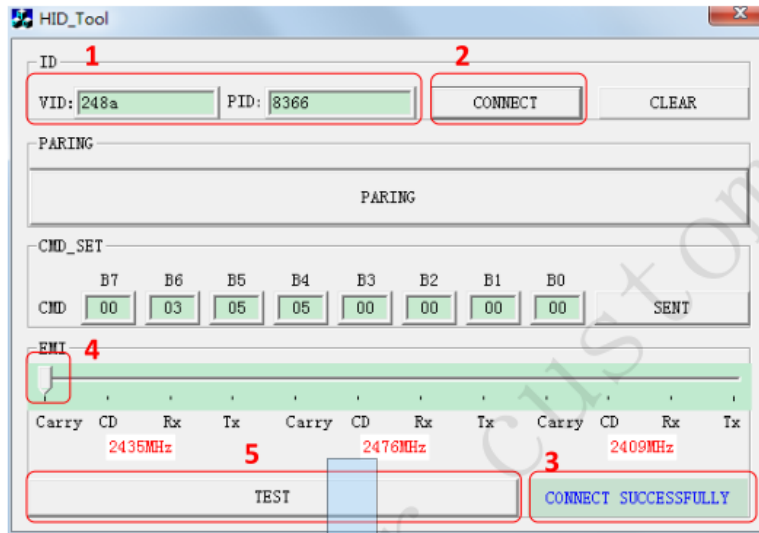
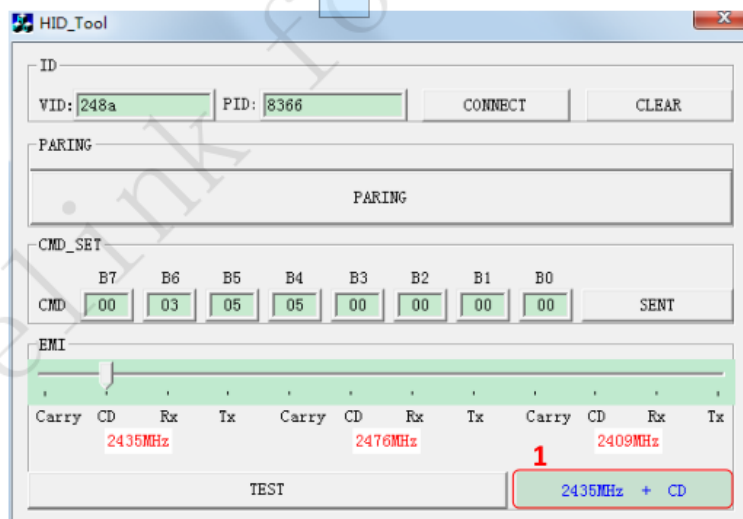

图 4-1 Dongle EMI 测试软件界面
图 4-2 当前测试模式和频点示意
- 2) Read the PID and VID data of pending testing dongle from the Device manager of my computer . In the 1 position shown in Fig. 4-1, enter the read data in the text box of "PID" and "VID" .
- 3) Click "CONNECT" button , (In the 2 position shown in Fig. 4-1), Tool interface right corner will be appears "CONNECT SUCCESSFULLY" (In the 3 position shown in Fig. 4-1),means successful connection.
Three frequency points for your choice . 2435MHZ,2476MHZ,2409MHZ, Each frequency point corresponds to five test patterns, "carry(Single shot emission) , "CD (Carry +Data ,Modulation data continuous emission)". "RX". "TX", "V-Pattern", In the 4 position shown in Fig. 4-1, Drag the button to switch the frequency point and the testing mode. After selecting the frequency point and the testing mode. It's will have instructions in the lower right corner of the tooling interface. In the 1 position shown in Fig.4-2 .Indicates that the current testing mode is CD, and the current frequency is 2435MHZ,
- 4) After selecting the frequency point and the testing mode. Click " TEST" button. Start testing. Like in the 5 position shown in Fig.4-1
(1) this device may not cause harmful interference, and
(2) this device must accept any interference received, including interference that may cause undesired operation.
4) 选中频点和测试模式后，单击“TEST”按钮，开始测试，如图 4-1 中 5 所示。